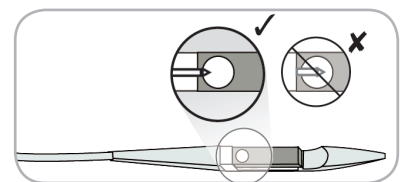

Fig. 4
- After opening the capsule package, make sure that the capsule trocar needle has not advanced. (Fig. 4)